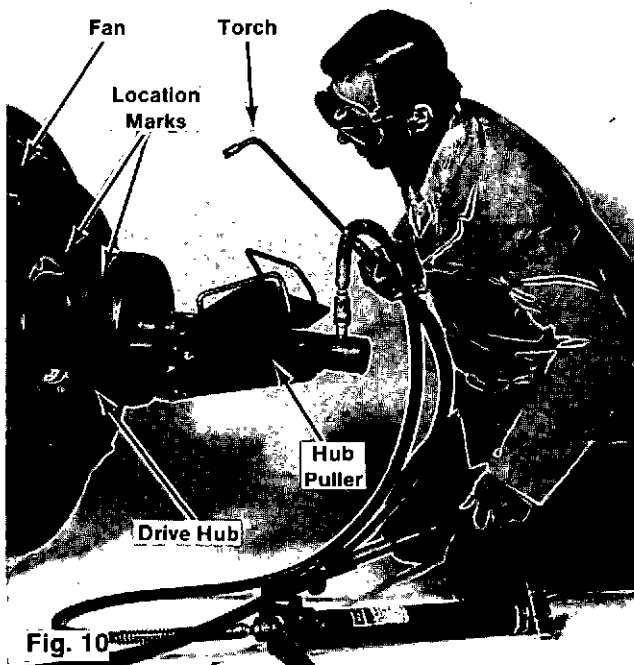

Fig. 10
1. Using a torch, rapidly, heat the drive hub at the outer diameter while tightening the puller (see figure 10). This must be done rapidly before the heat can expand the shaft. Remove the drive hub and key.